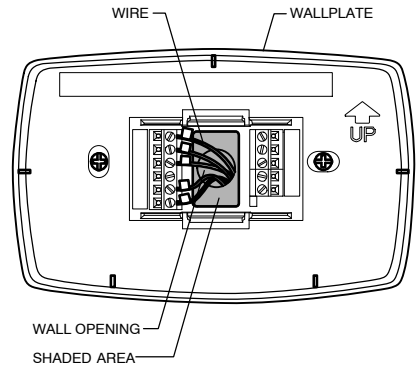

Figure 6. Restrict Wires to Shaded Area of Wire Hole
4. Push excess wire back into the wall opening and restrict wires to the shaded area (see figure 6).